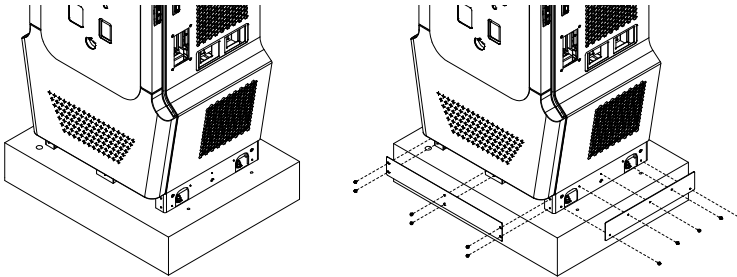

Figure 16. Base cover install
4) Attach the base cover (in the accessory pack) to the EVSE. See figure 16.